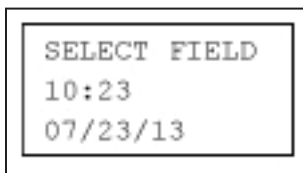

Fig. 6 Date/Time Setup
4. If the printer is connected and turned on, the display will appear as in Fig. 6. Use ▲ or ▼ to select the time or the date. Use ◀ or ▶ to set the correct time and date. When you have set them correctly, press OK.